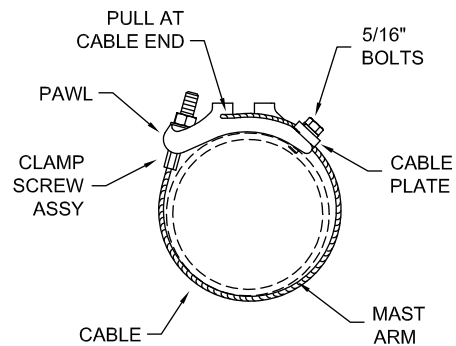

Figure 1
1. Place Cable Mount Clamp on the mast arm and insert each cable screw assembly into the pawl area of the clamp casting as shown in Fig. 1. Leave 2 to 3 threads exposed at the end of the Clamp Screw as shown in Fig. 2.